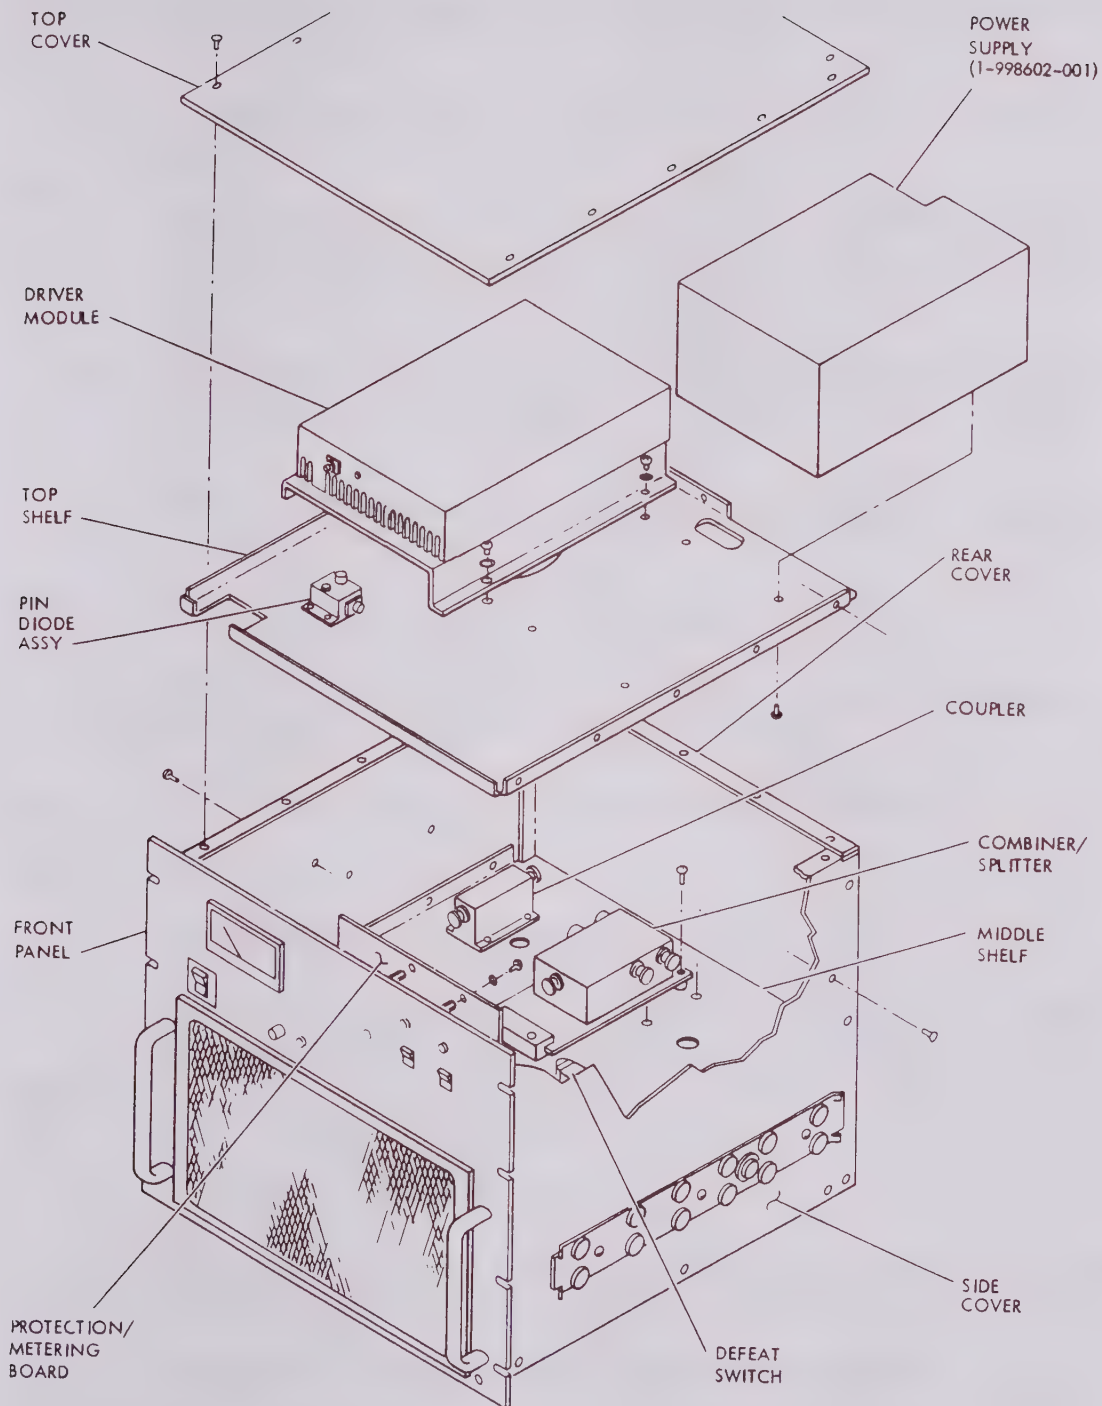

Figure 6-2. Top Access of Amplifier for Module Replacement
- b. Removal of Output Modules. Perform the following procedures to remove output modules from amplifiers 363/500 and 363/1000 (refer to Figure 6-2):
- d. Removal of Combiner/Splitters. Perform the following procedures to remove combiner/splitters from the amplifier (refer to Figure 6-2):
- e. Removal of Power Supply (PN 1-998602-001). Perform the following procedures to remove power supply from the amplifier (refer to Figure 6-2):